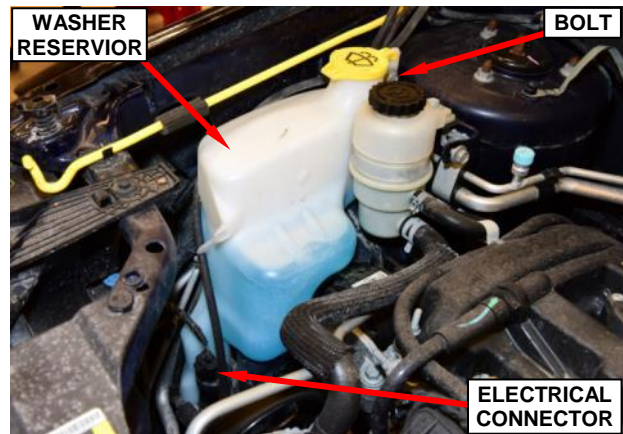

Figure 14 – Washer Reservoir
44. Remove and save the windshield washer reservoir retaining bolt (Figure 14).
45. Disconnect the windshield washer reservoir fluid hoses and pump electrical connector (Figure 14).
46. Remove and save the windshield washer reservoir (Figure 14).